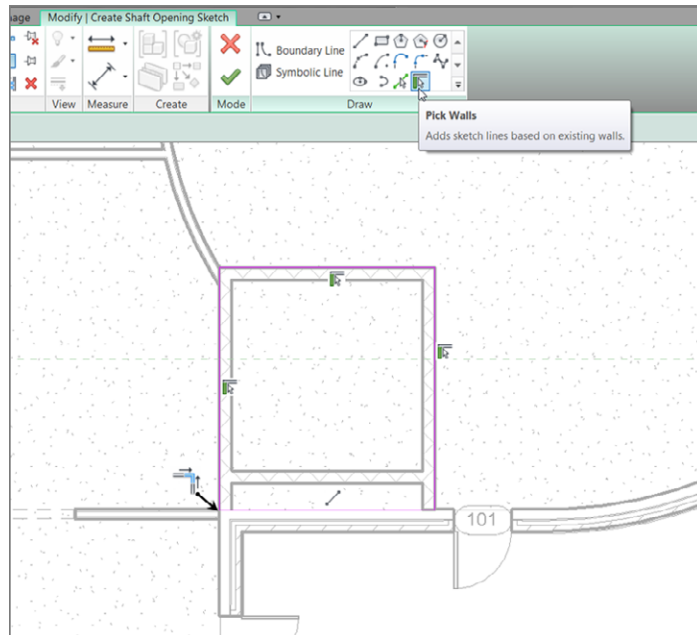

FIGURE 6.56: Adding the magenta lines to form the shaft opening to the outside of the CMU walls
3. On the Modify | Create Shaft Opening Sketch tab, click Pick Walls, as shown in Figure 6.56.
4. Pick the walls shown in Figure 6.56. Notice that you can have more than one shaft opening in the same command.
6. Use the Trim command to clean up any corners (see Figure 6.56).